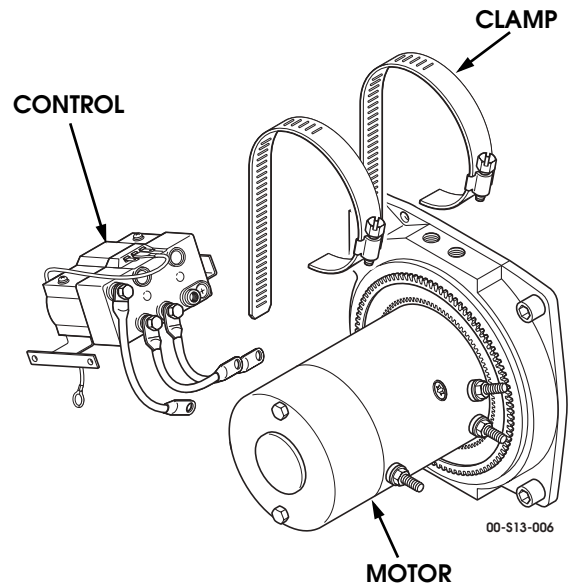

Figure 13-20: Control Unit and Motor
26. Secure control to motor with clamps (Figure 13-20).